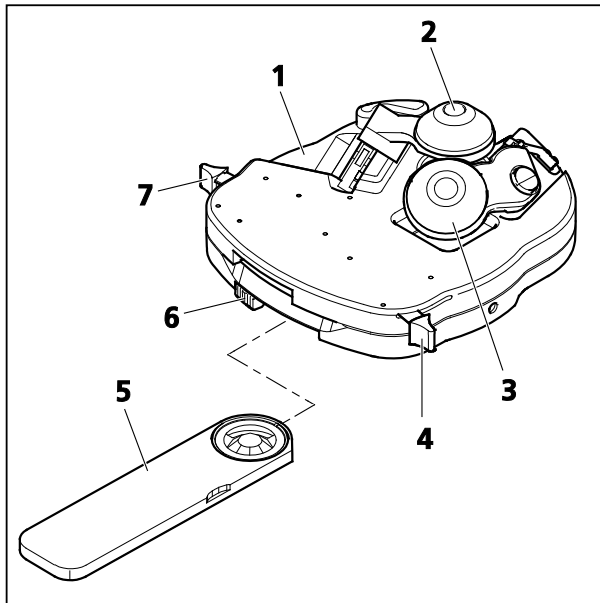

Fig. 194 **Achromatic-aplanatic universal condenser 0.9 H/0.8-0.9 DF**
The achromatic-aplanatic universal condenser 0.9 H/0.8-0.9 DF (Fig. 194/1) is equipped with a front lens for brightfield (Fig. 194/3) and for darkfield (Fig. 194/2), as well as with an aperture diaphragm (Fig. 194/6). For brightfield applications, refer to Section 4.12.1.
- To swivel the brightfield front lens **H** into the optical path, set lever (Fig. 194/4) to position **I** (darkfield front lens **D** swiveled out). To swivel it out, set lever to position **0**.
- Before swiveling the darkfield front lens **D** in or out, the wide-field DF slider (Fig. 194/5) should be extracted from the universal condenser (outer click-stop position). To swivel this lens in, set lever (Fig. 194/7) to position **0**. To swivel it out, set the lever to position **I**.
(5) Use of achromatic-aplanatic condenser 0.9 H/0.4 LD